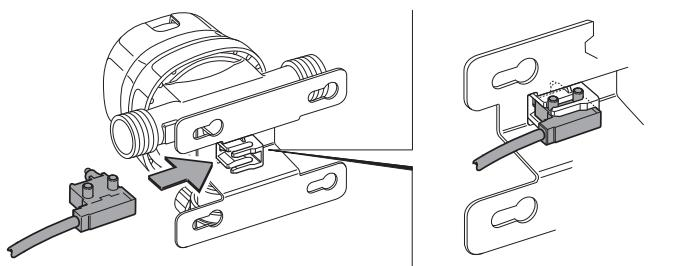

Fig. 4
- ▶ Slide the transmitter into the support of DuoControl CS from the side (Fig. 4). The transmitter must engage tangibly in the support.